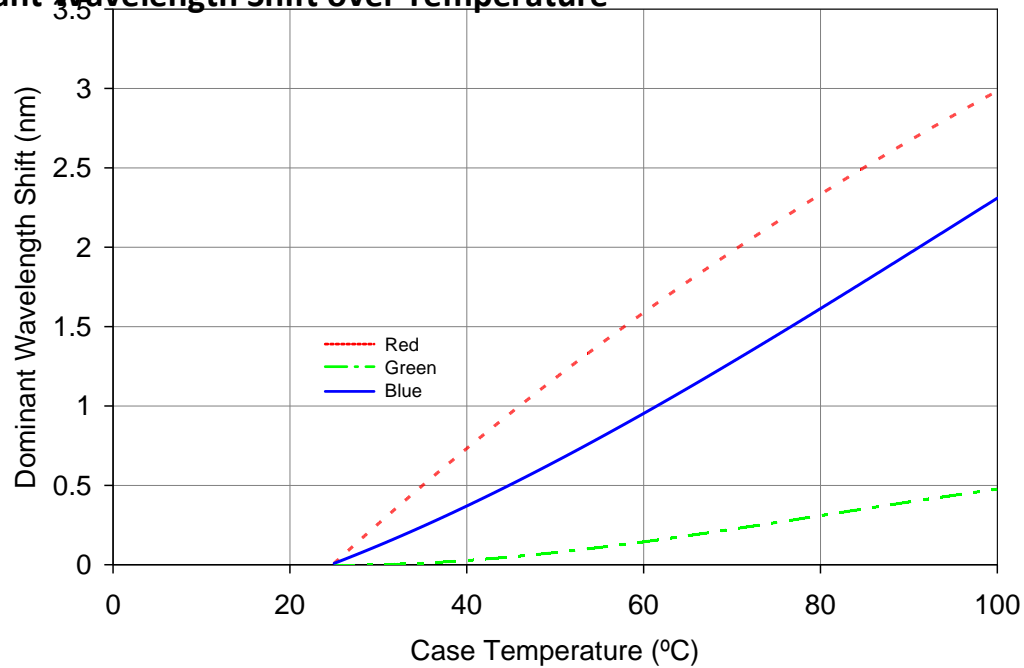

Figure 7: Typical dominant wavelength shift vs. case temperature.
- Refer to Figure 7 for typical dominant wavelength shift over temperature.